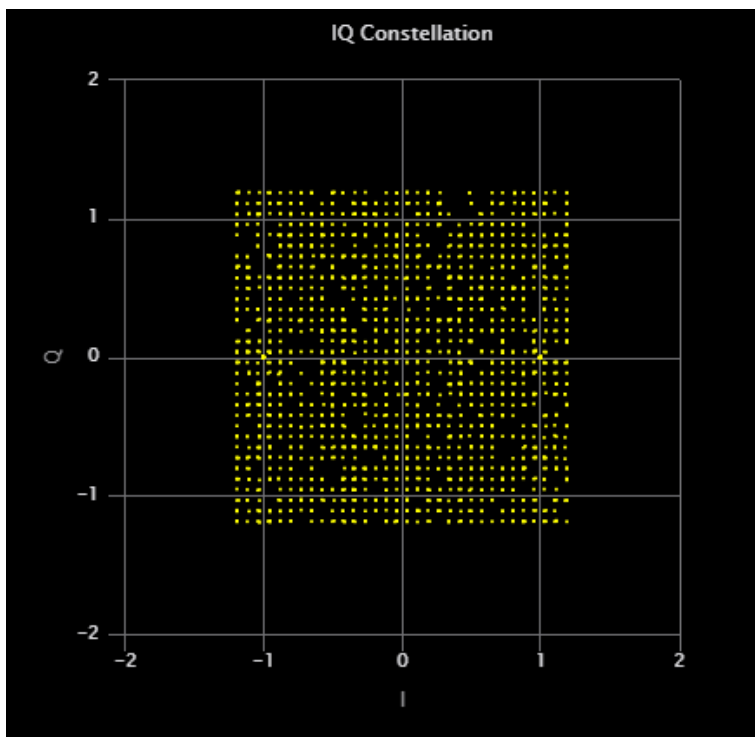

Figure 11-1: MT8862A Analysis Window – Graph of IQ Constellation
* Figures 11-1 and 11-2 are examples of the Single-User measurement display.